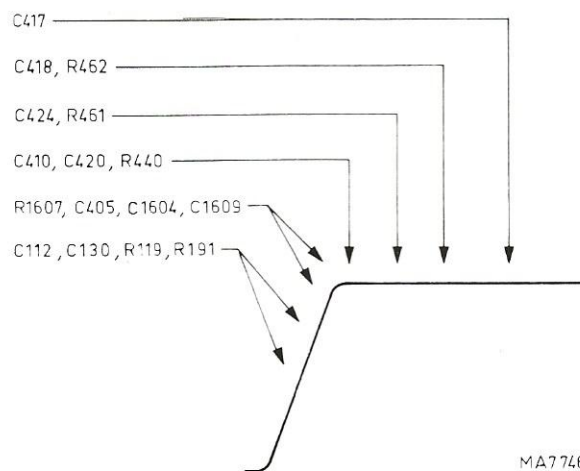

Fig. XI-5. HF Square-wave response channel A
- If necessary adjust the following controls or selecting components; note that it is important to adjust the controls in their stated sequence. See Fig. XI-5. .